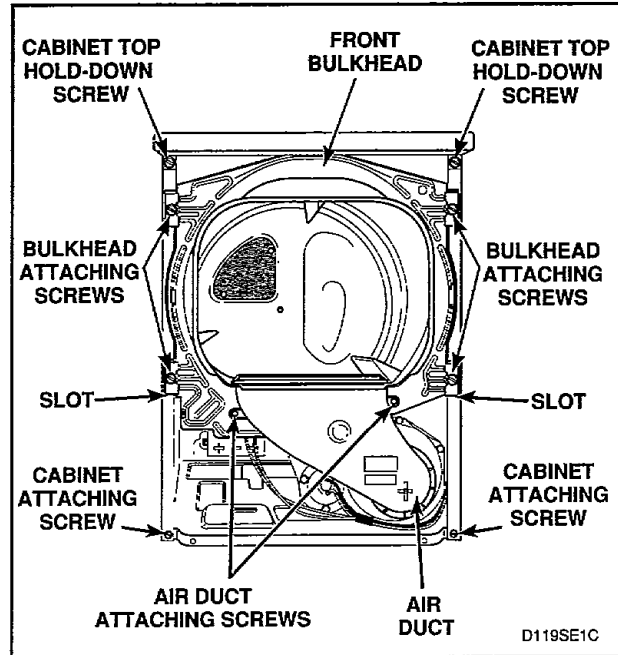

Figure 39
- Remove four screws holding bulkhead to front flange of cabinet, *Figure 39*. Lift complete bulkhead assembly out of slots in cabinet.
- Remove four screws holding bulkhead to front flange of cabinet and lift complete bulkhead assembly out of slots in cabinet, *Figure 39*.
- Loosen two cabinet top hold-down screw, *Figure 39*.
- e. Remove two cabinet top hold-down screws, *Figure 39*.
- k. Remove four screws holding bulkhead to front flange of cabinet and lift complete bulkhead assembly out of slots in cabinet, *Figure 39*.